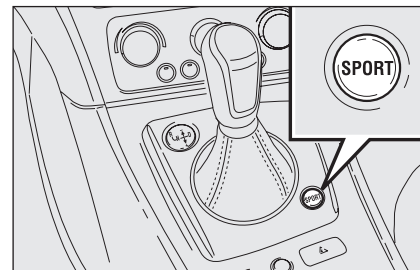

fig. 6
**SPORT/NORMAL (S)** operating mode can be engaged regardless of the gear lever position: to engage it, press button **SPORT** (**fig. 6**) located on the gearbox plate.
To engage the **Sport/Normal (S)** operating mode, press button **SPORT** (**fig. 6**) regardless of the operating mode selected.